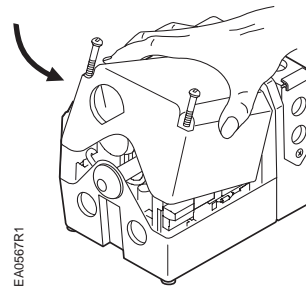

Figure 6.
- Lift the two screws on the cover corners and slide the cover end into the groove at the gear end of the actuator (See Figure 6).